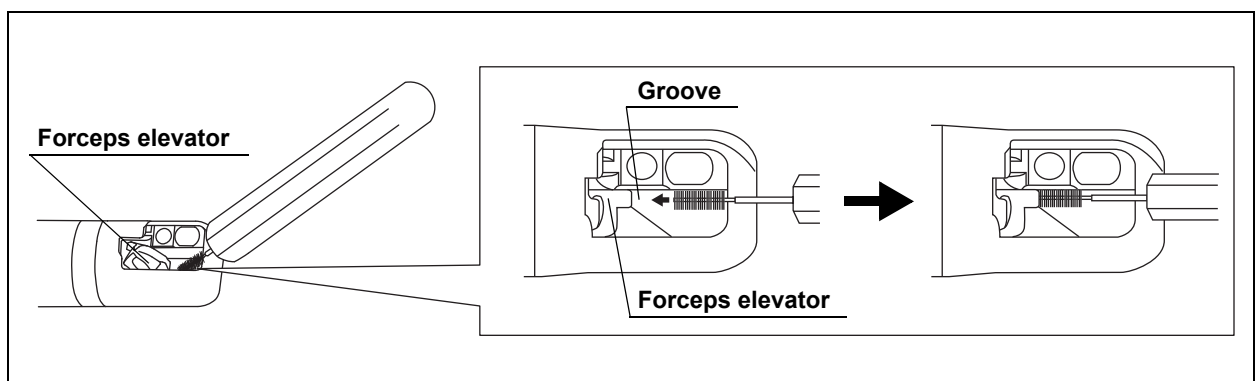

Figure 5.27
7. Insert the brush head slowly into the groove under the forceps elevator until the end of the brush touches the wall behind the elevator. (See Figure 5.27)
To avoid damage to the brush, make sure that the brush is gently inserted into the groove under the forceps elevator shown as "Groove" in Figure 5.27.